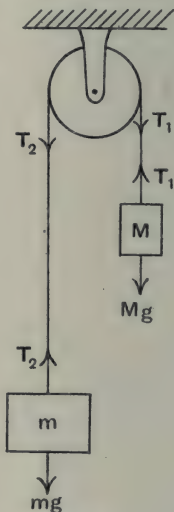

Fig. 65.
**Example (1).** Two masses  $M$  and  $m$  are supported by an inextensible string which passes over a pulley as shewn in fig. 65. Find the acceleration.